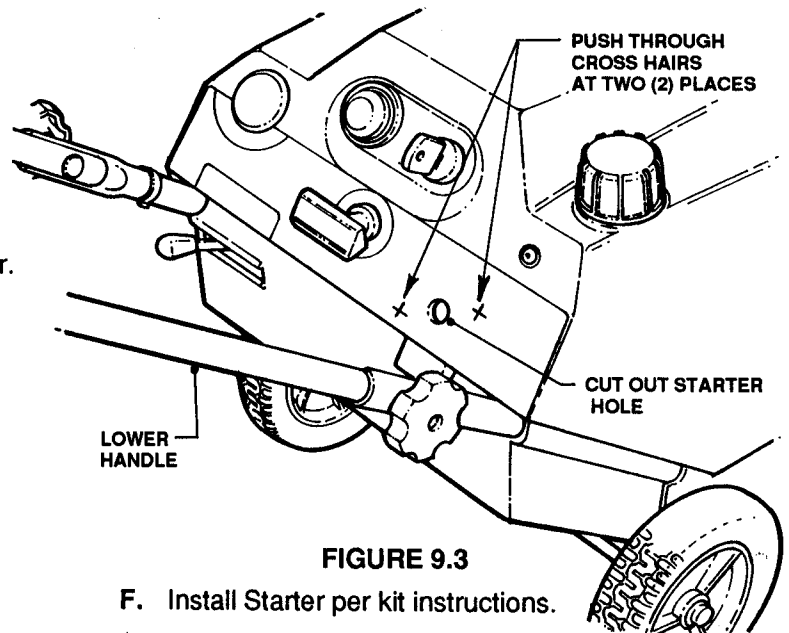

FIGURE 9.3
- D. Using a sharp object, push through Control Panel Decal at the two (2) Cross Hairs located by the Starter Button Hole.
- E. Cut out Starter Button Hole. See Figure 9.3.